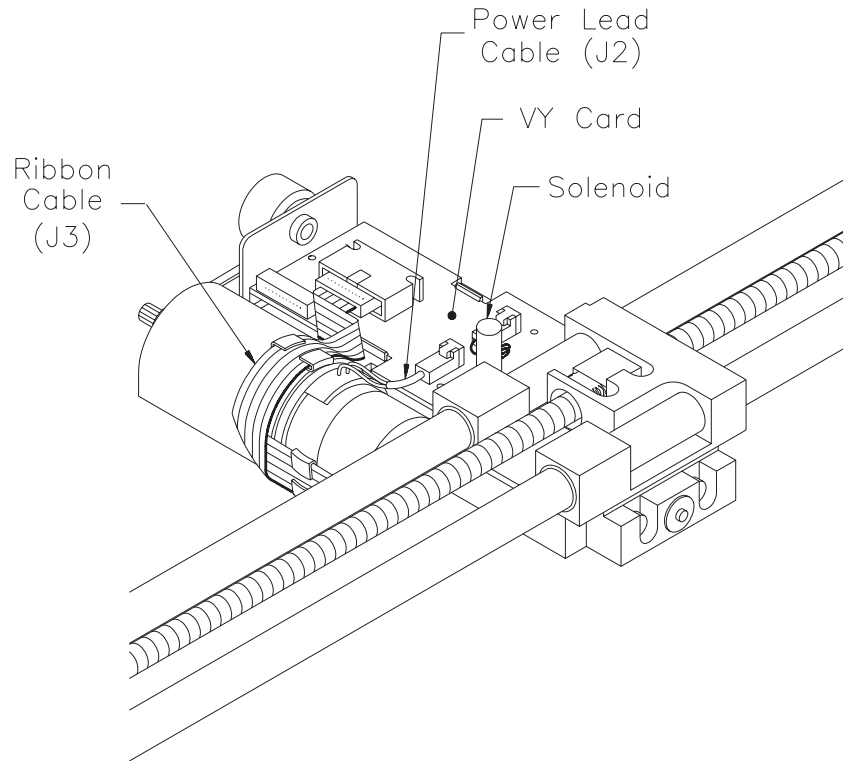

Figure 12-3 Horizontal motor and cable connections (horizontal motor still in its housing)
7. Detach the motor's power lead from the connector labeled "J2" on the VY card. Next, detach the blue ribbon cable from the connector labeled "J3" on the VY card. See Figure 12-3 for the location of the cable connectors on the VY card.
- a. Using two new sets of metal tabs, remove the adhesive backing from the tabs and position them on the motor, as shown in Figure 12-3 and Figure 12-2.
- b. Wrap the vertical flex cable around the motor housing and connect it to the “J3” connector on the VY card, as shown in Figure 12-3.